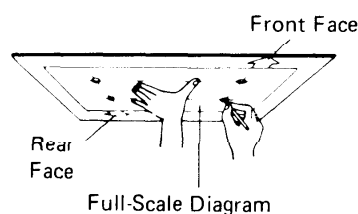

Fig. 6A
a) Place the Full-Scale Diagram (accessory) onto the ceiling, as shown in the illustration at right. Then mark the positions of the bolt anchors where the suspension bolts are to be mounted. Fig. 6A